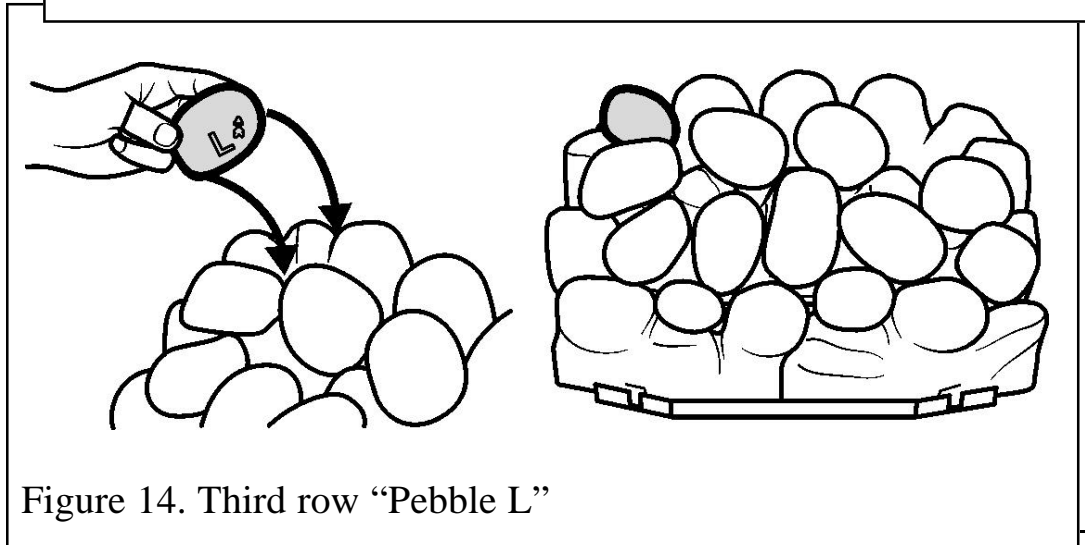

Figure 14. Third row "Pebble L"
16. Hold pebble 'L' upright with the arrow pointing to the top. Locate pebble 'L' as shown in figure 14.